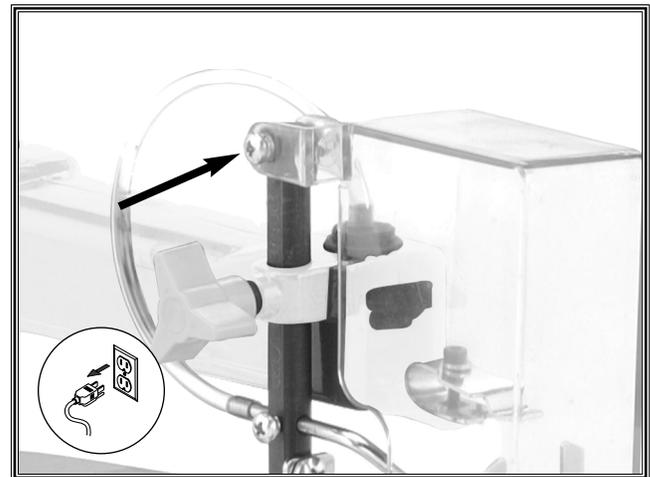

Figure 2. Blade guard mounting location.
2. Using the supplied screw, nut, and washers, install the clear blade guard onto the drop foot rod (Figure 2). *Over-tightening the bolt could break the clear plastic arms of the blade guard.*